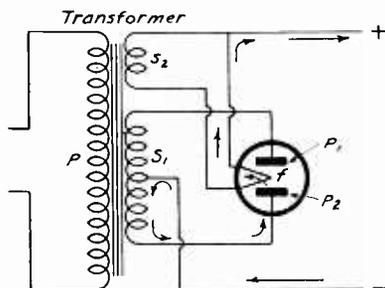
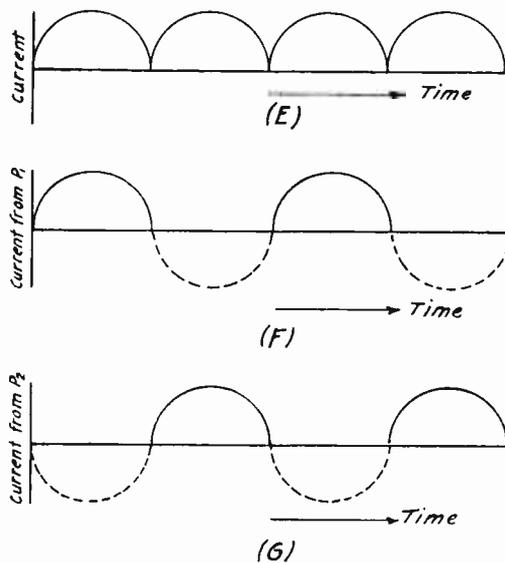

Fig. 26.
Fig. 27.
P_2 is positive, so that the current now flows in the direction indicated by the arrows in Fig. 26. In each case, you will notice, the current flows out of the rectifier and into the radio receiver at the + (plus) terminal, showing that our current is now unidirectional; that is, it always flows in the same direction. It, however, is not a constant current, but has the wave form indicated by the curve in Fig. 27-(E). Since current flows from each plate to the filament during only one-half the cycle, it is clear that Fig. 27-(E) is obtained by add-
ing together the current waves of the two plates, shown in Figs. 27-(F) and 27-(G).